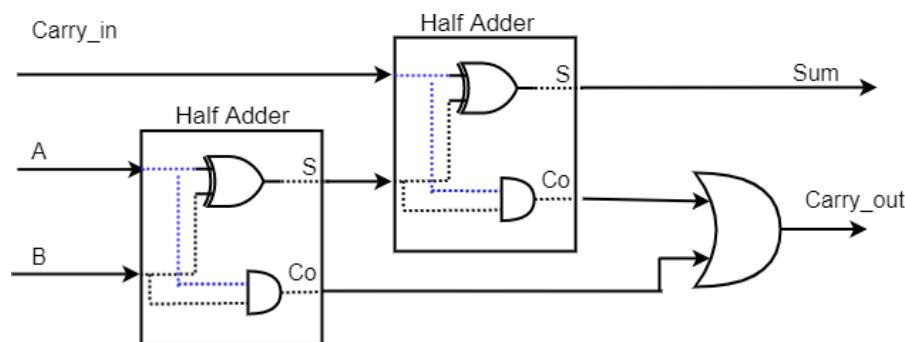

Figure 4.1 - Full Adder created from 2 Half Adder and an OR Gate
A combinational circuit which performs the arithmetic sum of three input bits is called **full adder**. The three input bits include two significant bits and a previous carry bit. A full adder circuit can be implemented with two half adders and one OR gate (figure 4.1). Equation for a full adder can be expressed
1. Combine two half-adders according to the logic diagram given in Figure 4.1.